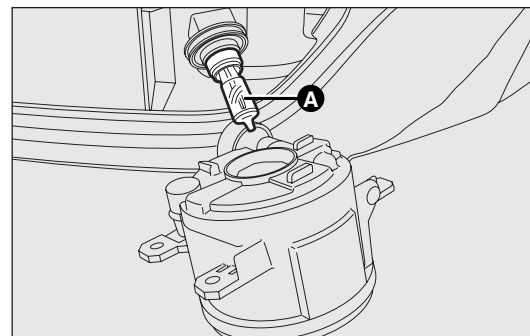

fig. 145
- ☐ remove the bulb A-fig.145 by rotating it anticlockwise and disconnect the electrical connector.